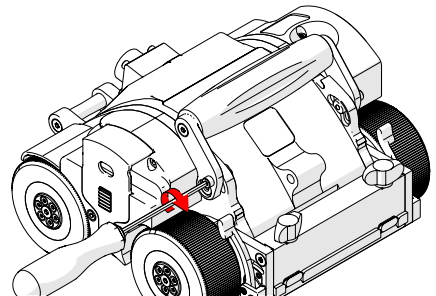

Fig. 86 - Tighten lock screw
3. Tighten the handle lock screws when complete (Fig. 86).